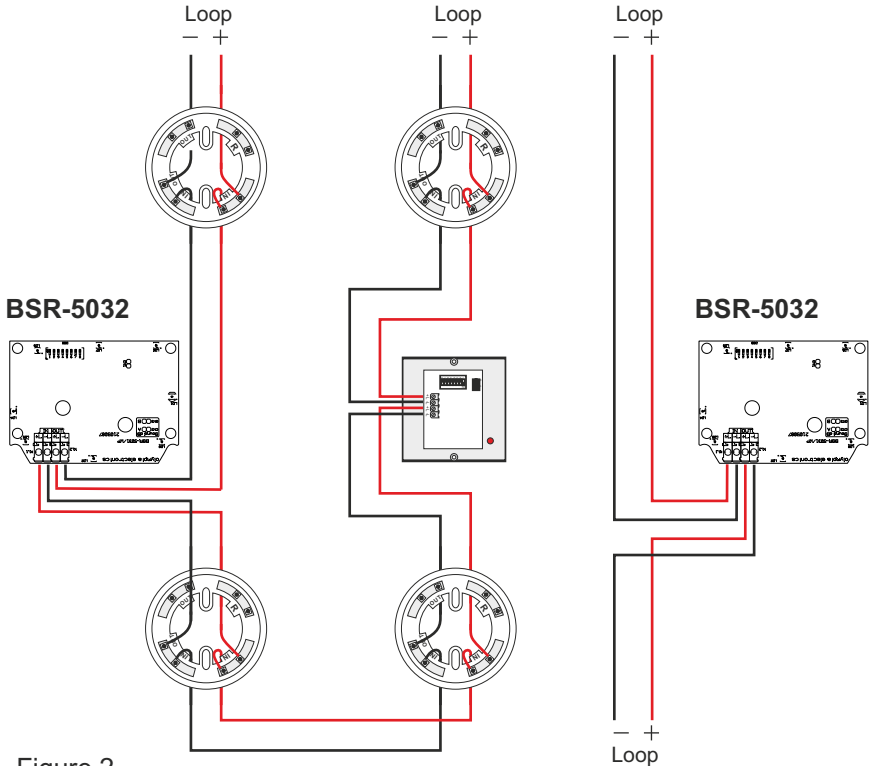

Figure 2
4. Connect the siren as shown in figure 2 (page 2). Similarly all sirens are connected in parallel (the maximum number depends on the panel).